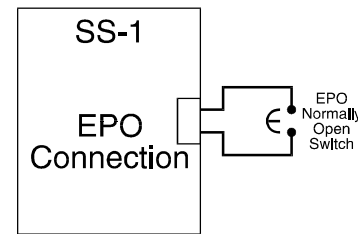

Figure 6
1. Wire the Normally Open switch to the removable EPO connector on the Signal Splitter Box. See Figure 6.